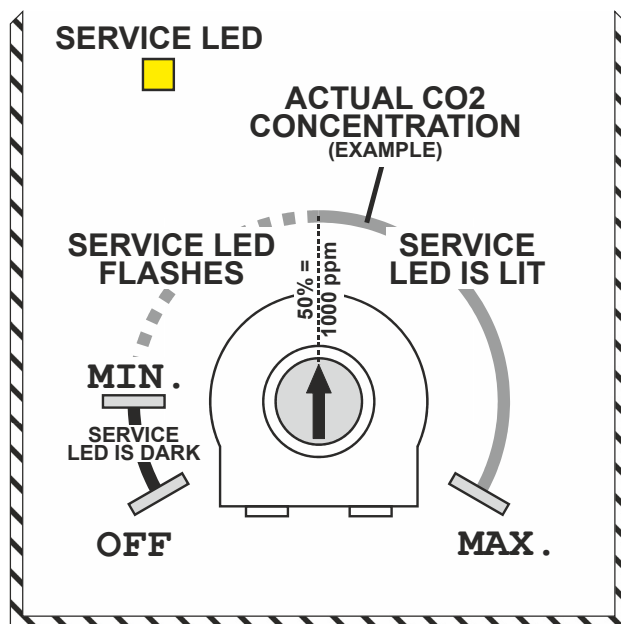
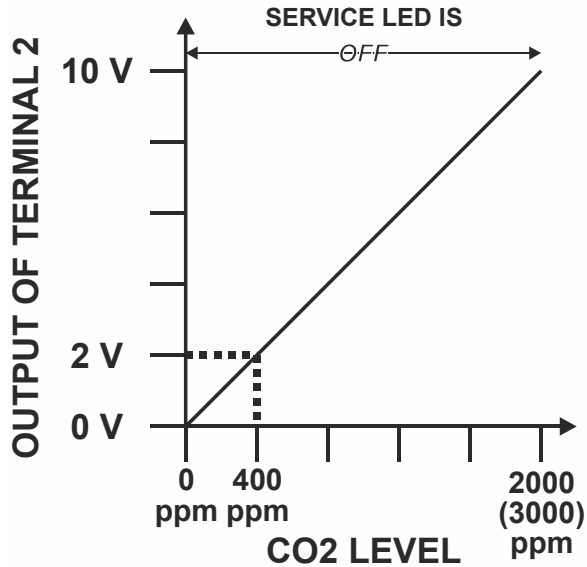
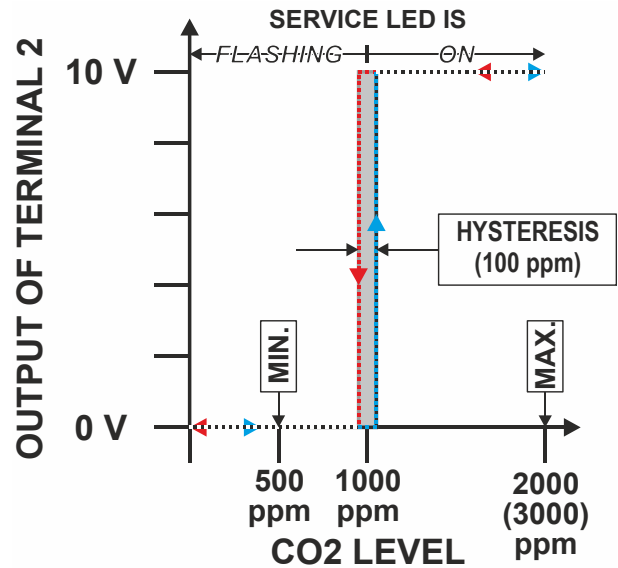

Fig. 11. Configuration potentiometer (e.g., set to 50% = 1000 ppm)
Fig. 12. Sensor output mode (analog)
Fig. 13. Relay output mode (digital)
- To select the "Sensor Output" mode (analog), set the configuration potentiometer to "OFF" (default setting) (see Fig. 11). See also Fig. 12.
- To select the "Relay Output" mode (digital), set the configuration potentiometer to between the "MIN." and "MAX." markers (see Fig. 11). The hysteresis value is permanently set to 100 ppm. See also Fig. 13.
In the "Sensor Output" mode (analog), the Service LED (see Fig. 11) is always dark.
In the "Relay Output" mode (digital), the Service LED (see Fig. 11) will either flash or be lit continuously, thus indicating the actual Threshold Level setting.